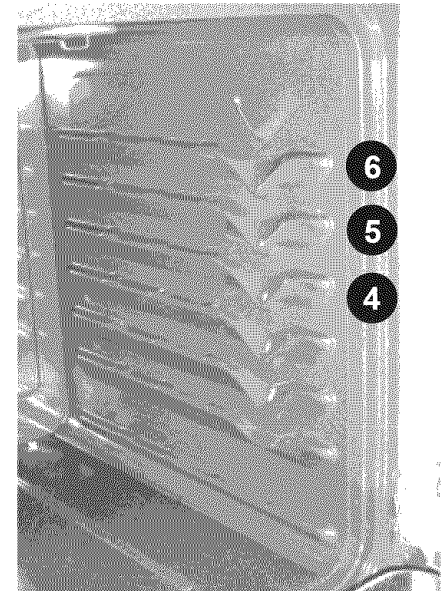

Fig. 3
**Broil Rack Position Table** (Refer to Fig. 3)